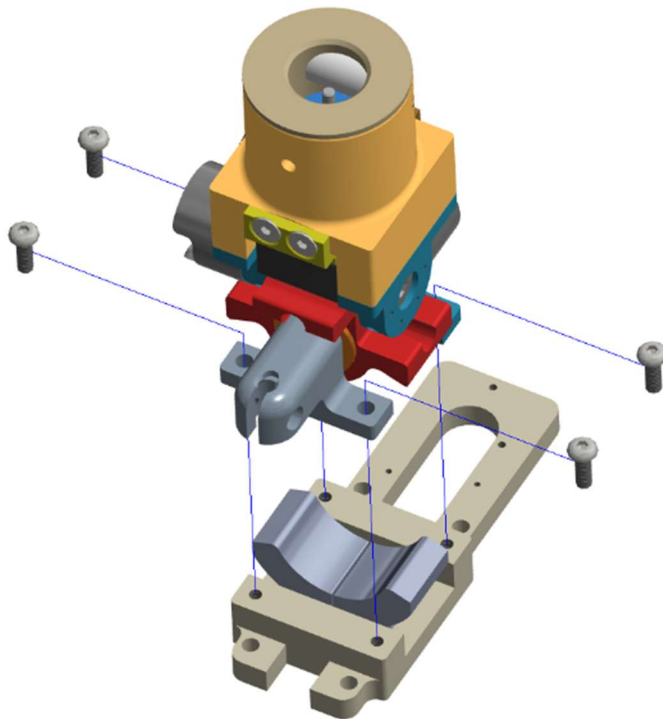

Figure 10-24. Separate the Lower Ankle Plate (474-5806-1,2) from the ankle
10.2.20 Separate the Lower Ankle Plate (474-5806-1,2) from the ankle by removing four M4 X 0.7 X 12 LG. BHCS (Figure 10-24).